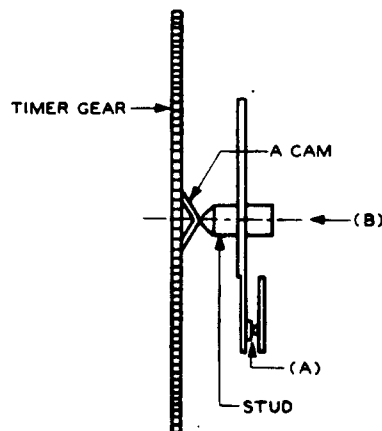
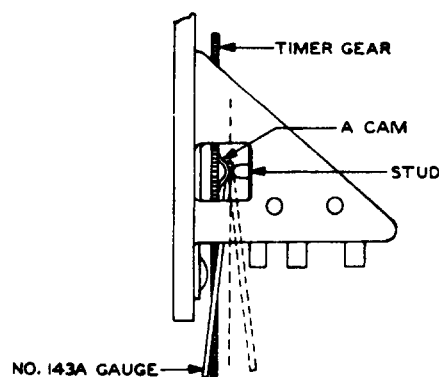

Fig. 15 - "A" Cam Position
Fig. 16 - Checking "A" Cam Position
- (a) "A" Cam Contacts: Fig. 15(A) - With the timer gear rotated so that the "A" cam does not touch the stud, the contact separation shall be
2.23 "A" Cam Position: Fig. 15(B) - With the timer gear in its normal position, the center line of the "A" cam shall be centrally located with respect to the center line of the stud on the A contact spring assembly. This requirement is met, if with one end of the gauge applied as shown in Fig. 16, the near end of the gauge takes a position to either side of a line passing through the end of the stud and parallel to the timer gear and with the gauge reversed, the near end of the gauge takes a position with respect to the line opposite to that taken before the gauge was reversed.